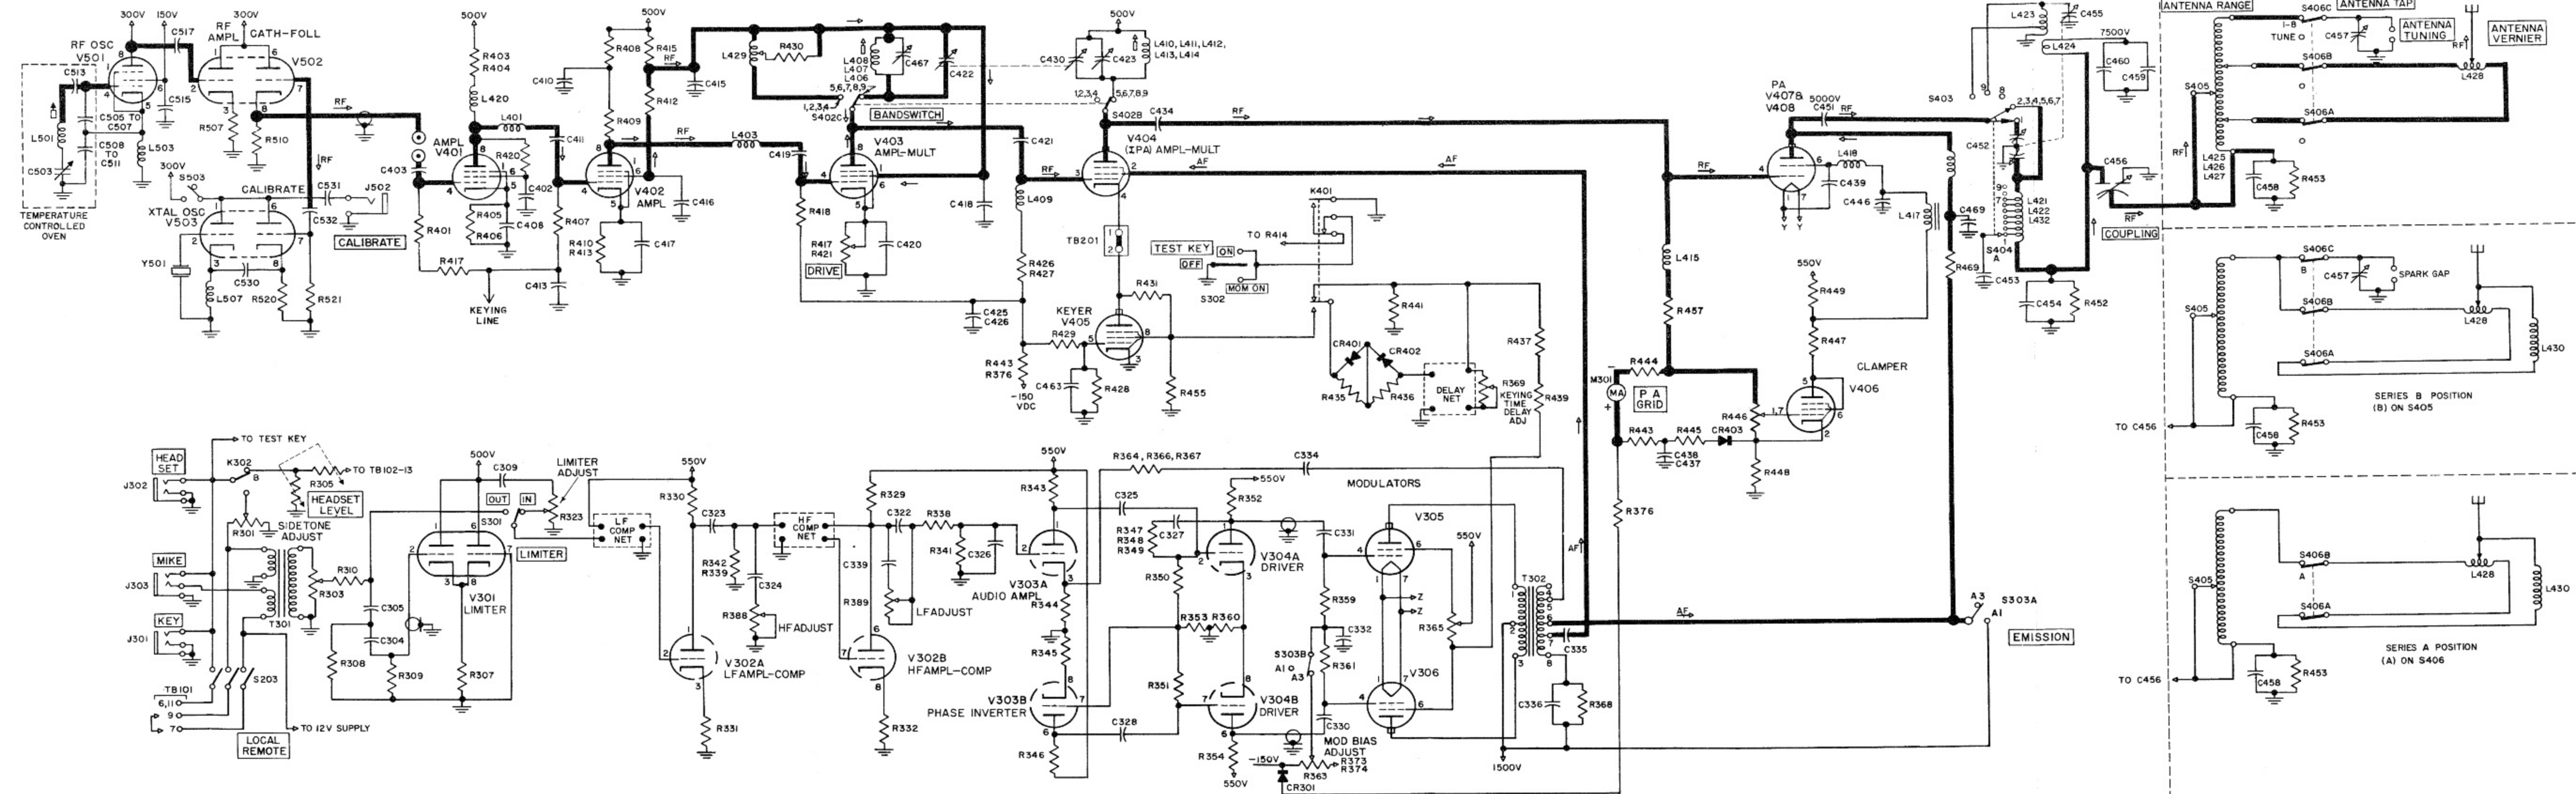

Figure 2-2. Simplified Radio and Audio Frequency Circuits
The radio frequency circuits of the transmitter are shown in simplified form in figure 2-2, and in complete form in figure 7-17.
d. **POWER AMPLIFIERS AND CLAMPERS.** - The Power Amplifier, consisting of tubes V407, and V408, type 4-65A tetrodes operated in parallel, is a conventional plate-tuned class C amplifier. The tuned rf signal, at the desired output frequency, is fed from the plate of V404 through coupling capacitor C434 to the control grids of the PA. A portion of this rf energy is applied to the grid of V406, which operates as a screen-grid clamper to V407 and V408. When rf energy is applied to the grid of V406, the grid goes more negative which decreases the plate current through resistors R447 and R449, thereby increasing the PA screen voltage, and prevents excessive current in the screen when rf energy is applied to the power amplifiers. The plate tank for the power amplifier is connected to the plates through dc blocking capacitor C451. The tank circuit is parallel tuned and rf energy is coupled into the antenna circuit through differential-type capacitor C456 connected at the ground end of the tank coil for bands 1 through 7 and through a link coil coupled to the small HF tank coil L423 for bands 8 and 9. The BAND SWITCH, S402-S404, selects appropriate taps on plate tank coils L421 and L422 for bands 1 through 7 and on tank coil L423 for bands 8 and 9. Appropriate sections of PA tuning capacitors C452 and C455 are also selected by the BAND SWITCH. The simplified schematic, figure 2-2, shows the connections for both LF and HF arrangements of the tank circuit. Plate voltage is supplied from the 1500 volts rectifier in the Power Supply unit. Plate voltage is fed through the EMISSION switch S303A and plate decoupling resistor R466. Depending on the position of BAND SWITCH S402 and the operating frequency, plate power is then fed through a combination of plate chokes L419,
(3) **HIGHLY CAPACITIVE ANTENNA.** - When loading the output of the transmitter into a highly capacitive antenna, the **ANTENNA TUNING** capacitor C457 is switched out of the circuit in the **SERIES A** position of the **ANTENNA TAP** switch. The **ANTENNA RANGE** switch is used to select different portions of the antenna loading coils L425, L426 and L427 while tuning with the **ANTENNA VERNIER** to match and load the rf output into the antenna. Rf coil L430, as indicated in figure 2-2, is placed in parallel with the unused portion of L428 to limit high circulating currents which could cause damage to the **ANTENNA VERNIER** coil.
The audio circuits for voice modulation are shown in simplified form in figure 2-2 and in complete form in figure 7-17.